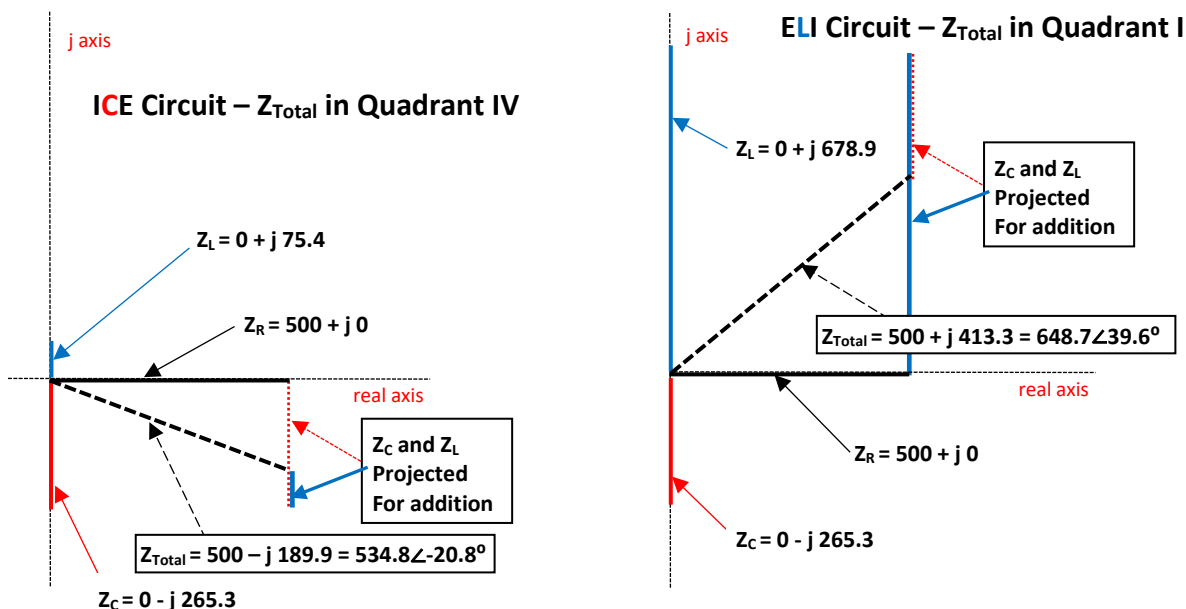

Figure 3.9: Impedance Plots for Example3.4. Case 1: $L = 0.2 \text{ H}$ (Left Plot), Case 2: $L = 1.8 \text{ H}$ (Right Plot)
The phasors for the total impedance (Z_{tot}) for each of the two cases ($L = 0.2 \text{ H}$ and $L = 1.8 \text{ H}$) are calculated in textbox in Figure 3.8. An impedance plot is performed in Figure 3.9 to help verify the total impedance was calculated correctly.
* Case 1: $L = 0.2 \text{ H}$, $Z_{\text{Total}} = 534.8 \angle -20.8^\circ$ (see Fig. 3.9)	* Case 2: $L = 1.8 \text{ H}$, $Z_{\text{Total}} = 648.7 \angle 39.6^\circ$ (see Fig. 3.9)